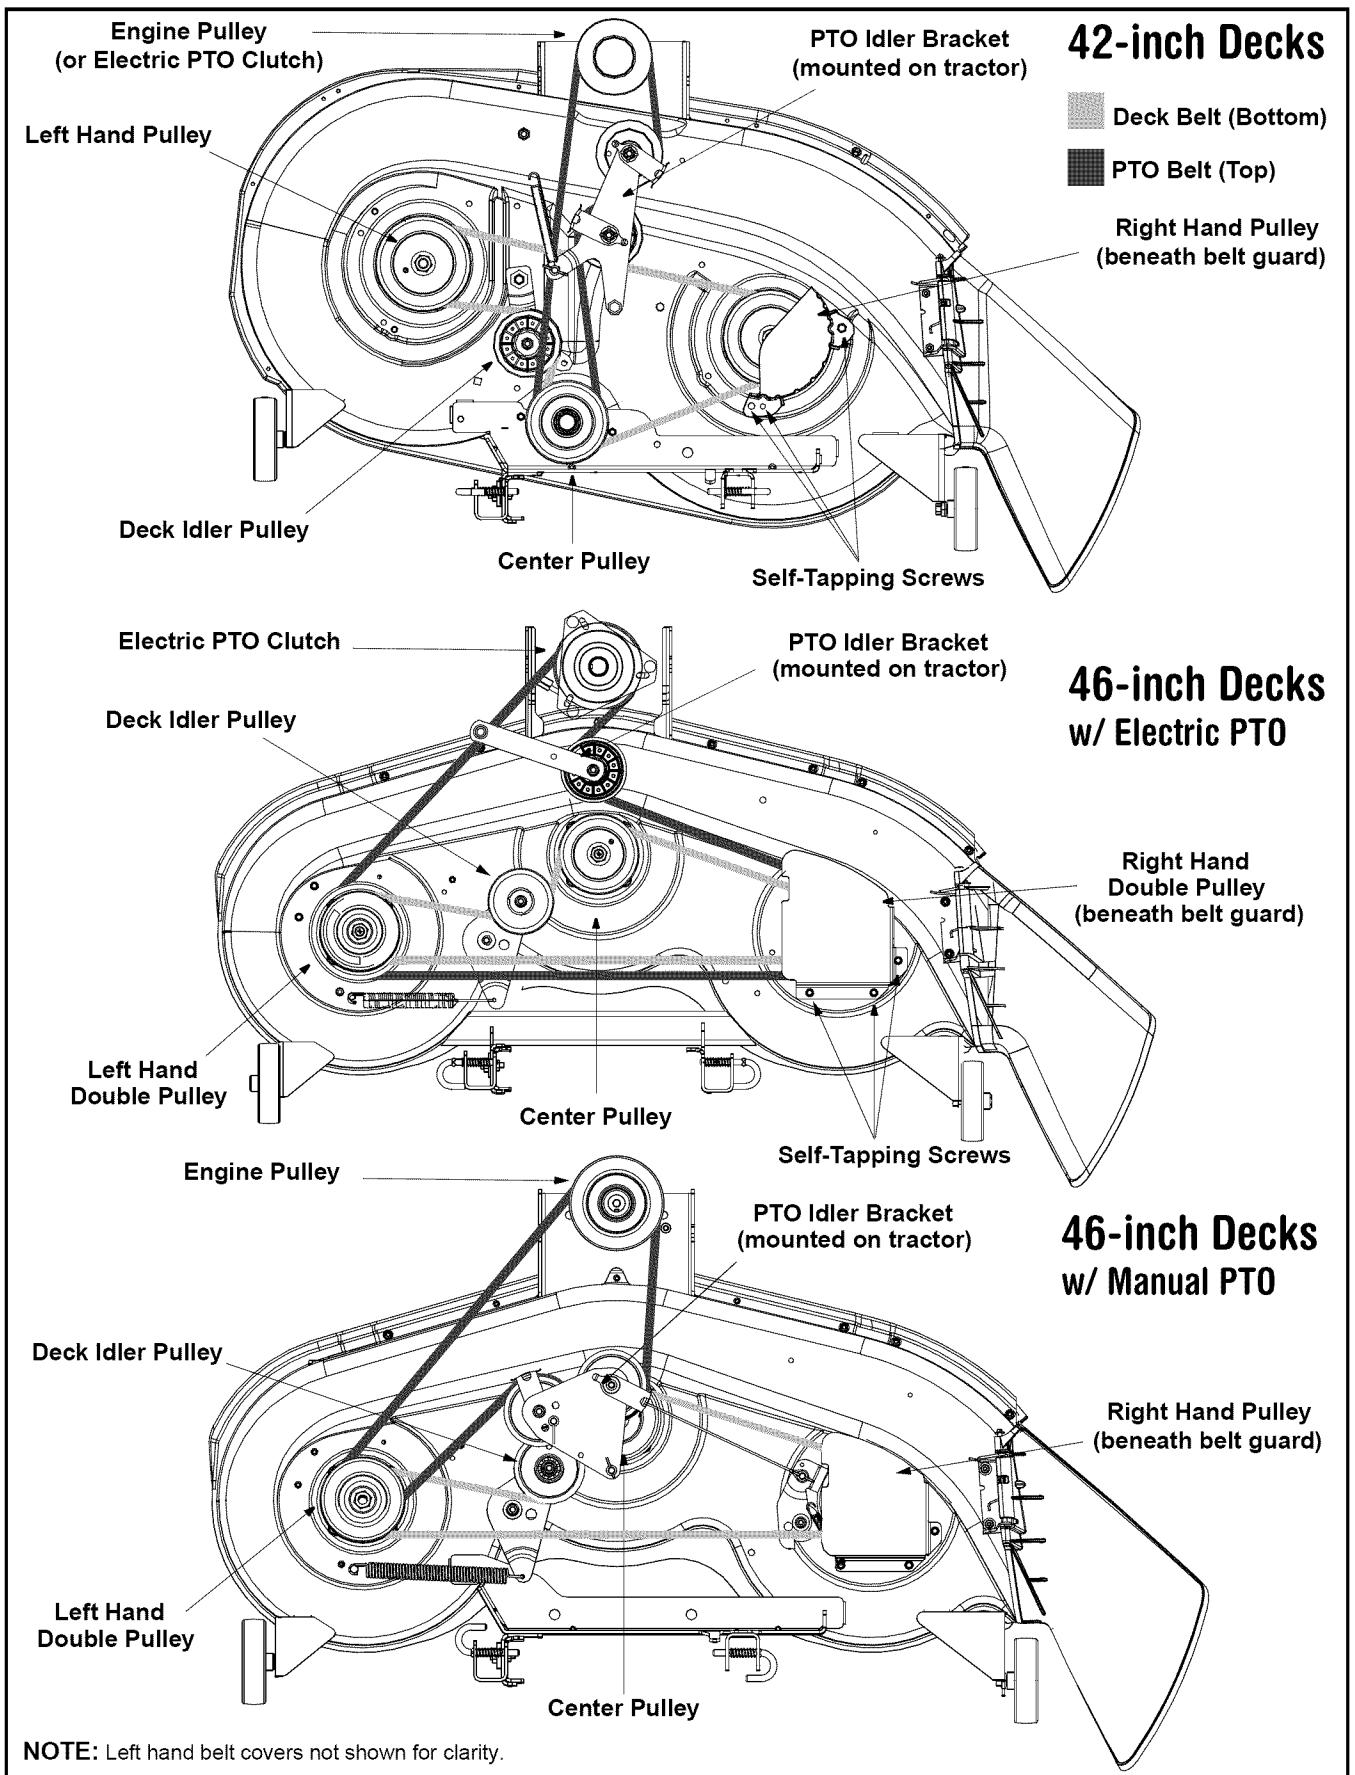

Figure 24
- On models with a 42-inch deck, remove the PTO belt from around the cutting deck’s center pulley. Refer to Figure 24 .
- On models with a 46-inch deck, remove the PTO belt from around the tractor’s engine pulley or electric PTO clutch, if so equipped. Refer to Figure 24 .
- Route the new belts as shown in Figure 24.